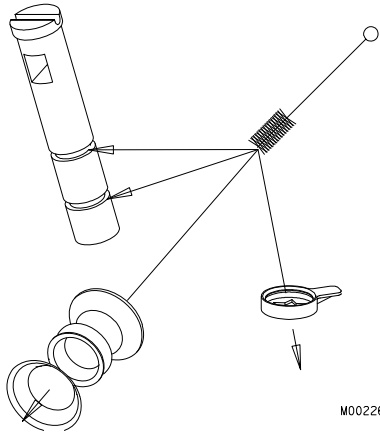

Figure 8-7 Clean shaft seal, washer, plunger, and nozzle
c. The shaft seals, washers, plunger o-ring grooves and nozzles (figure 8-7).